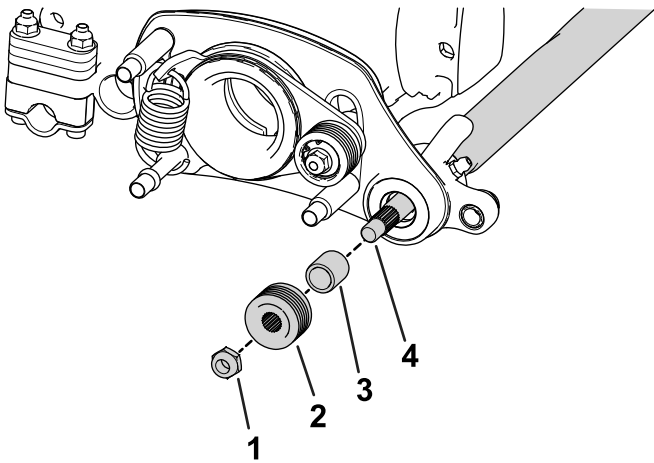

Figure 11
8. Apply a light coating of grease to the driven-pulley (Figure 11) hub.
9. Slide the driven pulley onto the grooming shaft (Figure 11).
10. Secure the pulley to shaft with a flange locknut (Figure 11) and torque it to 23 to 28 N·m (17 to 21 ft-lb).